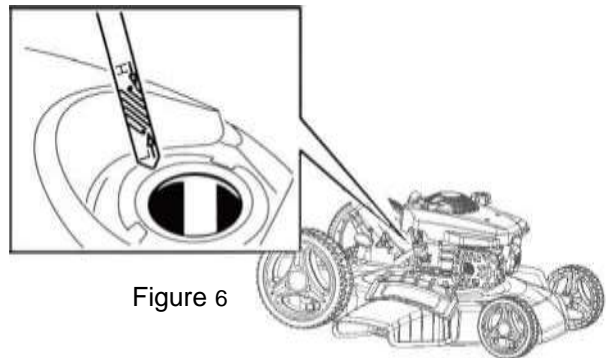

Figure 6
1. Remove dipstick, wipe it clean, and fully re-insert it, check to see if oil is needed by the oil mark that is left the dipstick. (Figure 6)
2. Remove the dipstick and check the oil level (Figure 6) If the oil level is low on the dipstick, slowly pour oil into the oil fill hole to raise the oil level to the full range on the dipstick. Do not overfill. Max 0.4L, type: SAE 10w30 oil with an API service rating of SF or higher.